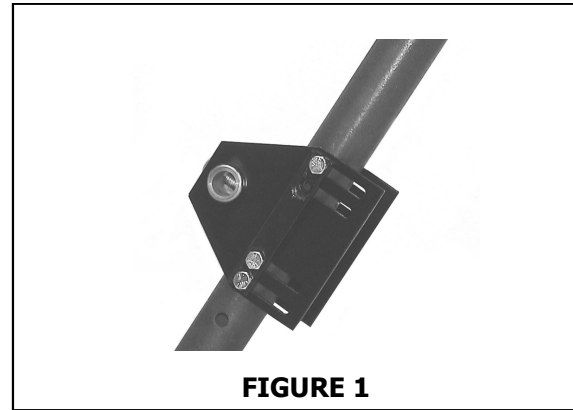

FIGURE 1
2. Place the lower support onto the ball lift tube and secure with the 1/4" bolts. Make sure that it is slid down as far as it will go. See figure 1.